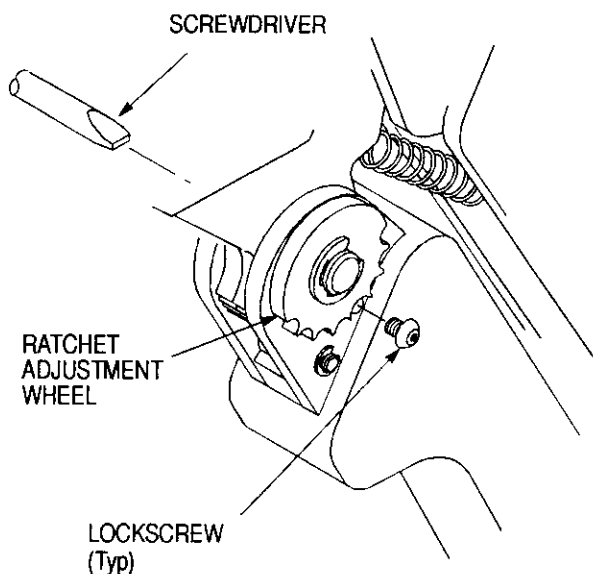

Figure 4
5.4. Ratchet Adjustment (Figure 4)